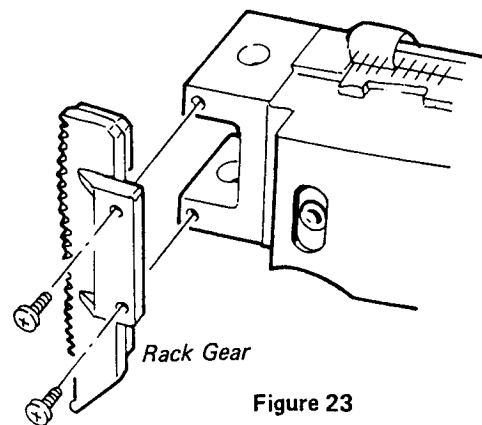

Figure 23
7. Remove rack gear by removing two screws fixing it. (Figure 23)